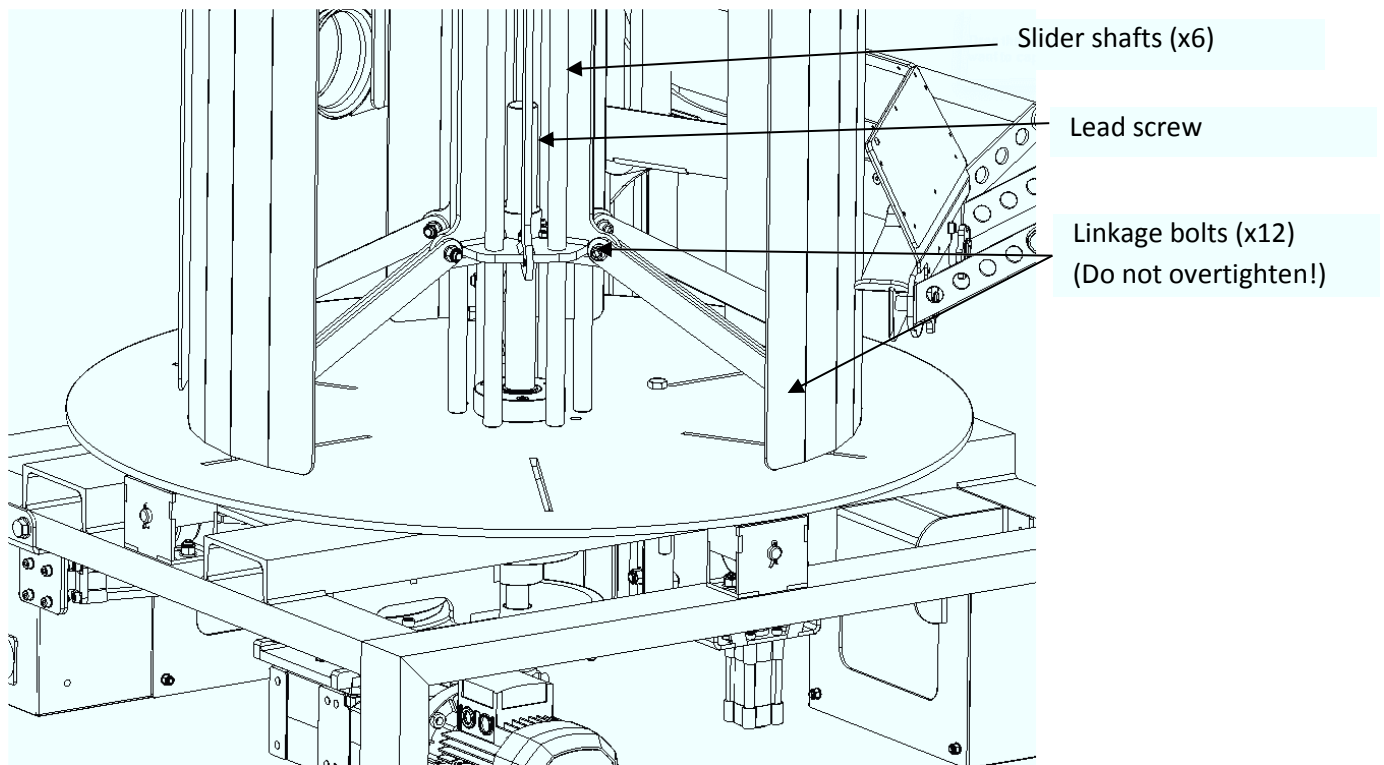

Figure 26: Sliders, Link bolts & Lead screw
- The scroll shaft (see Figure 26) in the centre of the mandrel should be lubricated with a moly grease approximately every 6 months.
- The slide shafts (see Figure 26) should be lubricated with grease.